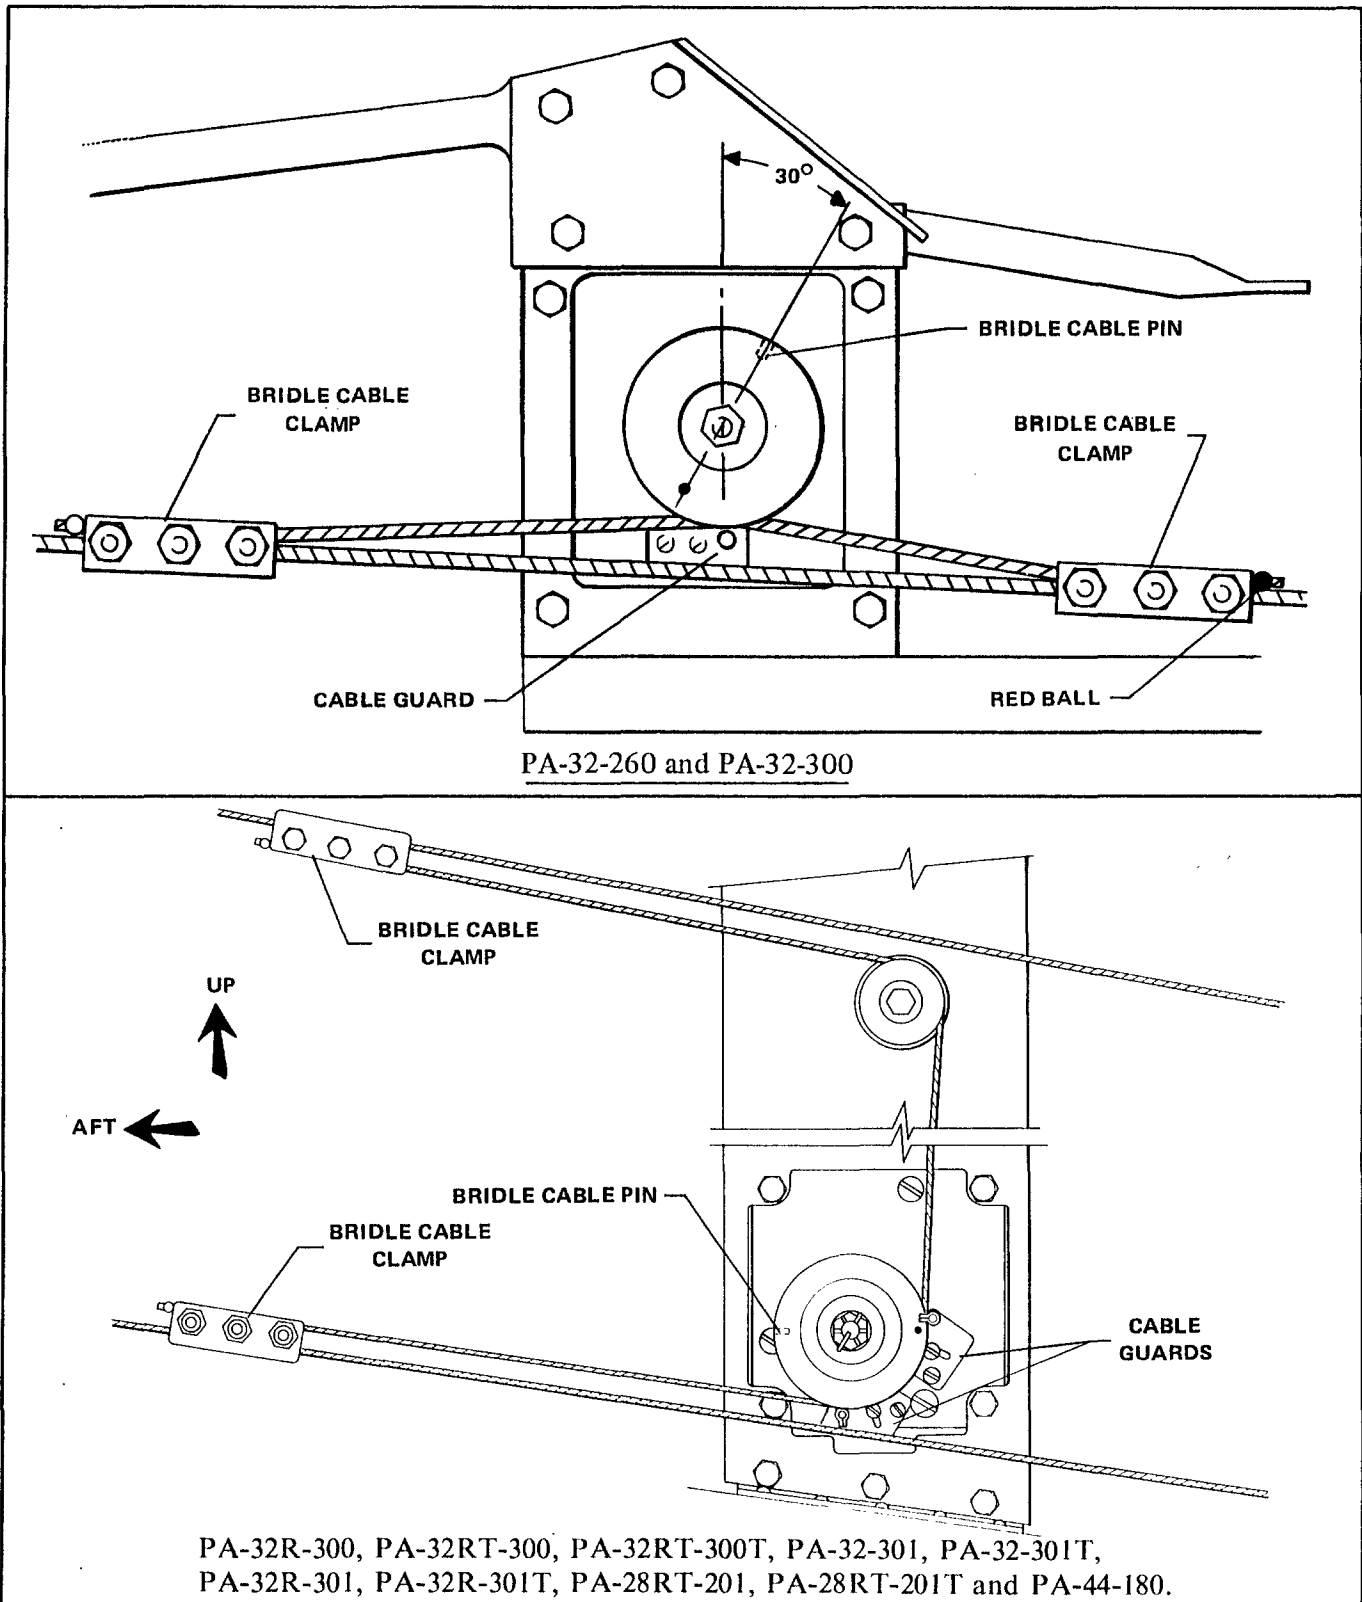

Figure 3-28. Pitch Servo Installation
(Refer to Figure 3-28.)
- e. REFER TO FIGURE 3-9 AND CHECK THAT THE CONTROL CABLE TENSION ( $z$ ) IS ADJUSTED TO  $40 \pm 5$  POUNDS PRIOR TO ATTACHING THE BRIDLE CABLE CLAMPS. Ascertain area on cable where clamp attaches is clean, dry and free of all lubricants and anti-corrosive additives. Attach the bridle cable to the stabilator control cable. The bridle cable is drawn to the right stabilator control cable and attach with clamps at the previously painted locations on the control cable. The longest portion of the bridle cable or the end with the red ball extends aft. (Refer to Figure 3-28.) (Should the balance cable not be painted, position the control wheel full forward and with the servo disengaged, position the capstan pulley so that the bridle cable pin is aligned as shown in Figure 3-28.) Adjust the bridle cable clamps so the cable tension ( $y$ ) is equal to the control cable tension between the bridle cable clamps ( $x$ ) without increasing the control cable tension from the bridle cable clamps outward. At no time shall the bridle cable tension be greater than the control cable tension between the clamps. Adjusting the bridle cable tension will lower the control cable tension between the two bridle cable clamps. Torque the bridle cable clamp bolts to  $55 \pm 5$  inch pounds.
3-86. INSTALLATION OF PITCH SERVO. (PA-32-300, S/N 32-7940001 and up; PA-32R-300; PA-32RT-300; PA-32RT-300T; PA-32-301; PA-32-301T; PA-32R-301 and PA-32R-301T) (Refer to Figure 3-28.)
- e. REFER TO FIGURE 3-9 AND CHECK THAT THE CONTROL CABLE TENSION (Z) IS ADJUSTED TO  $40 \pm 5$  POUNDS PRIOR TO ATTACHING THE BRIDLE CABLE CLAMPS. Ascertain area on cable where clamp attaches is clean, dry and free of all lubricants and anti-corrosive additives. Attach the bridle cable to the stabilator control cable. The bridle cable is drawn to the right stabilator control cable and attached with clamps at the previously painted locations on the control cable. The longest portion of the bridle cable or the end with the red ball extends aft. (Refer to Figure 3-28.) (Should the balance cable not be painted, position the control wheel full forward and with the servo disengaged, position the capstan pulley so that the bridle cable pin is aligned as shown in Figure 3-28.) Adjust the bridle cable clamps so the bridle cable tension (Y) equals  $15 + 0-5$  lbs. tension between the bridle cable clamps (X) without increasing the control cable tension from the bridle cable clamps outward. At no time shall the bridle cable tension be greater than the control cable tension between the clamps. Adjusting the bridle cable tension will lower the control cable tension between the two bridle cable clamps. Torque the bridle cable clamp bolts to  $55 \pm 5$  inch-pounds.